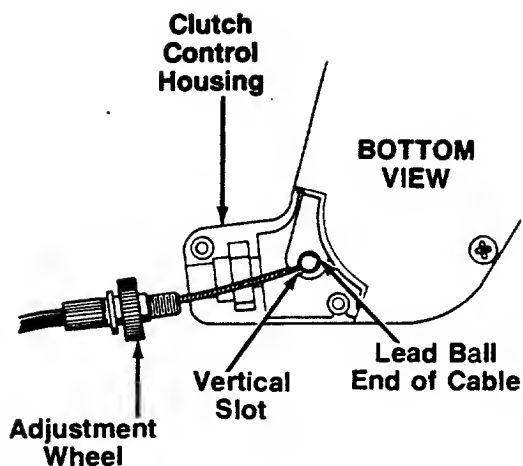

FIGURE 6.
1. Place the lead ball end of the cable into the fitting provided in the end of the clutch control lever. Slip the braided wire into the vertical slot as shown in figure 6.